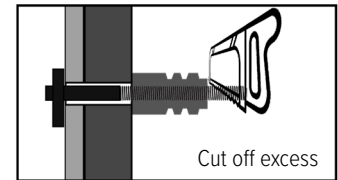

Figure 4.1.5
4.1.5 Cut the excess 3/8" stud off with a hacksaw as shown in Figure 4.1.5.